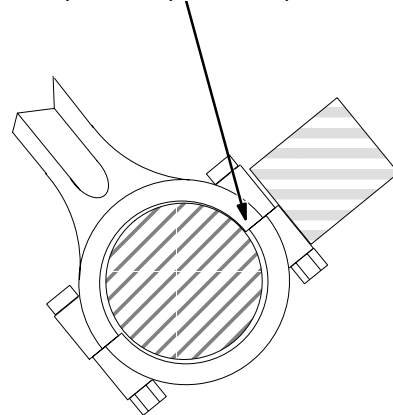

FIGURE 86. ALIGNING CONNECTING ROD CAP
B. Strike the cap/rod joint using a hardwood block and a leather or plastic mallet to remove any misalignment (Figure 86).